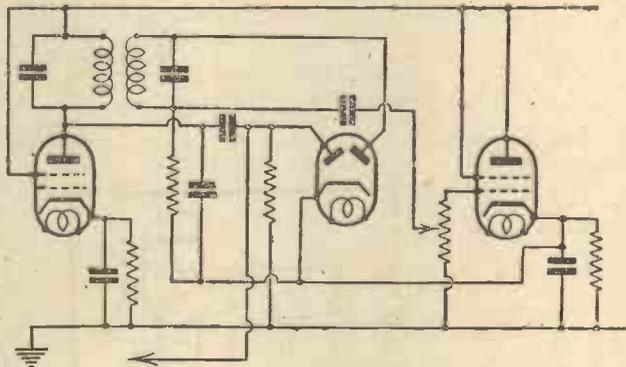

Fig. 8.—The A.V.C. circuit of a superhet receiver which may be tested as described in this article.
*Diode detectors and A.V.C.*—All diode detectors are subject to the same faults, at least as far as detection and A.V.C. are concerned, and only differ in that some are used simply as detectors and others incorporate an amplifier. For the sake of simplicity we will consider here a double-diode circuit, as shown in Fig. 8. It will be noted that no H.T. voltages are used, and the first steps must be to check the L.T. and the delay voltage applied to the cathode.